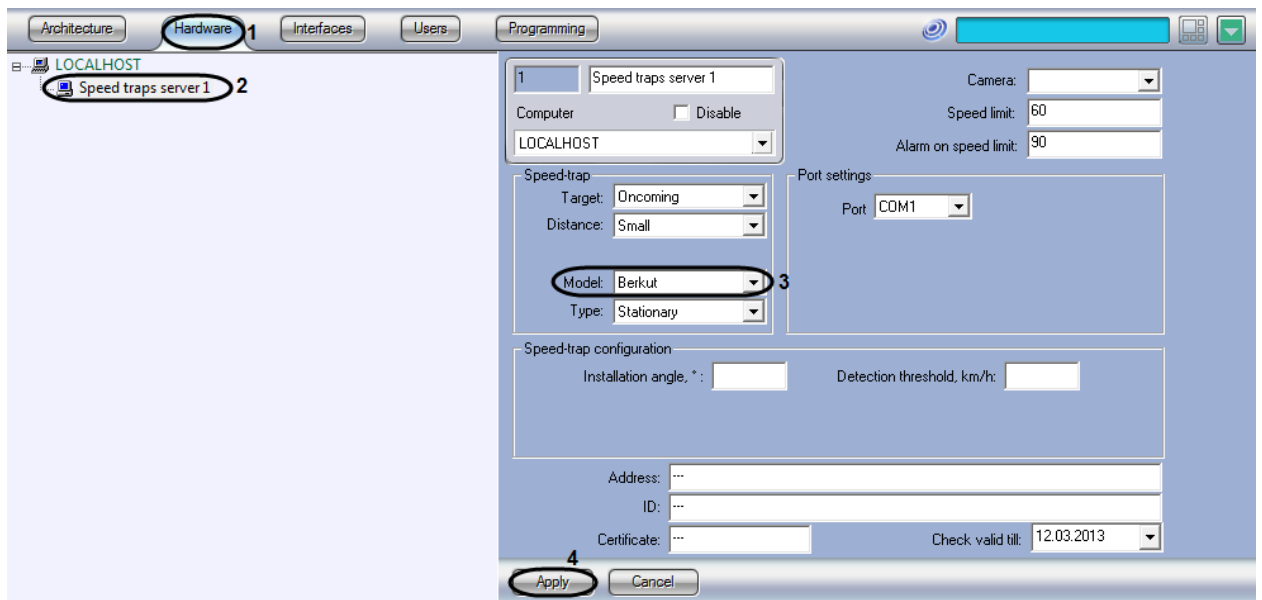

Fig. 7.3—5 Select the Radar device from the list of available
2. In the object tree on the left side of the Hardware tab, select the Speed-trap server object representing the Radar module to be set up. The settings panel of the selected object will open on the right side of the window (Fig. 7.3—5, 2).
3. Specify the module of Radar device from the list of supported devices (Fig. 7.3—5, 3).
4. Click Apply (Fig. 7.3—5, 4).